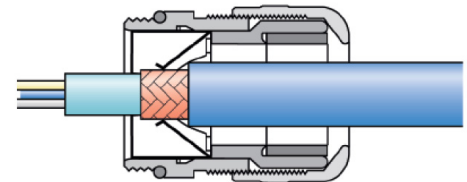

Figure 31: Cable entry
4. Connect the cables to the corresponding plugs on the left side of the board as shown in Figure 31.